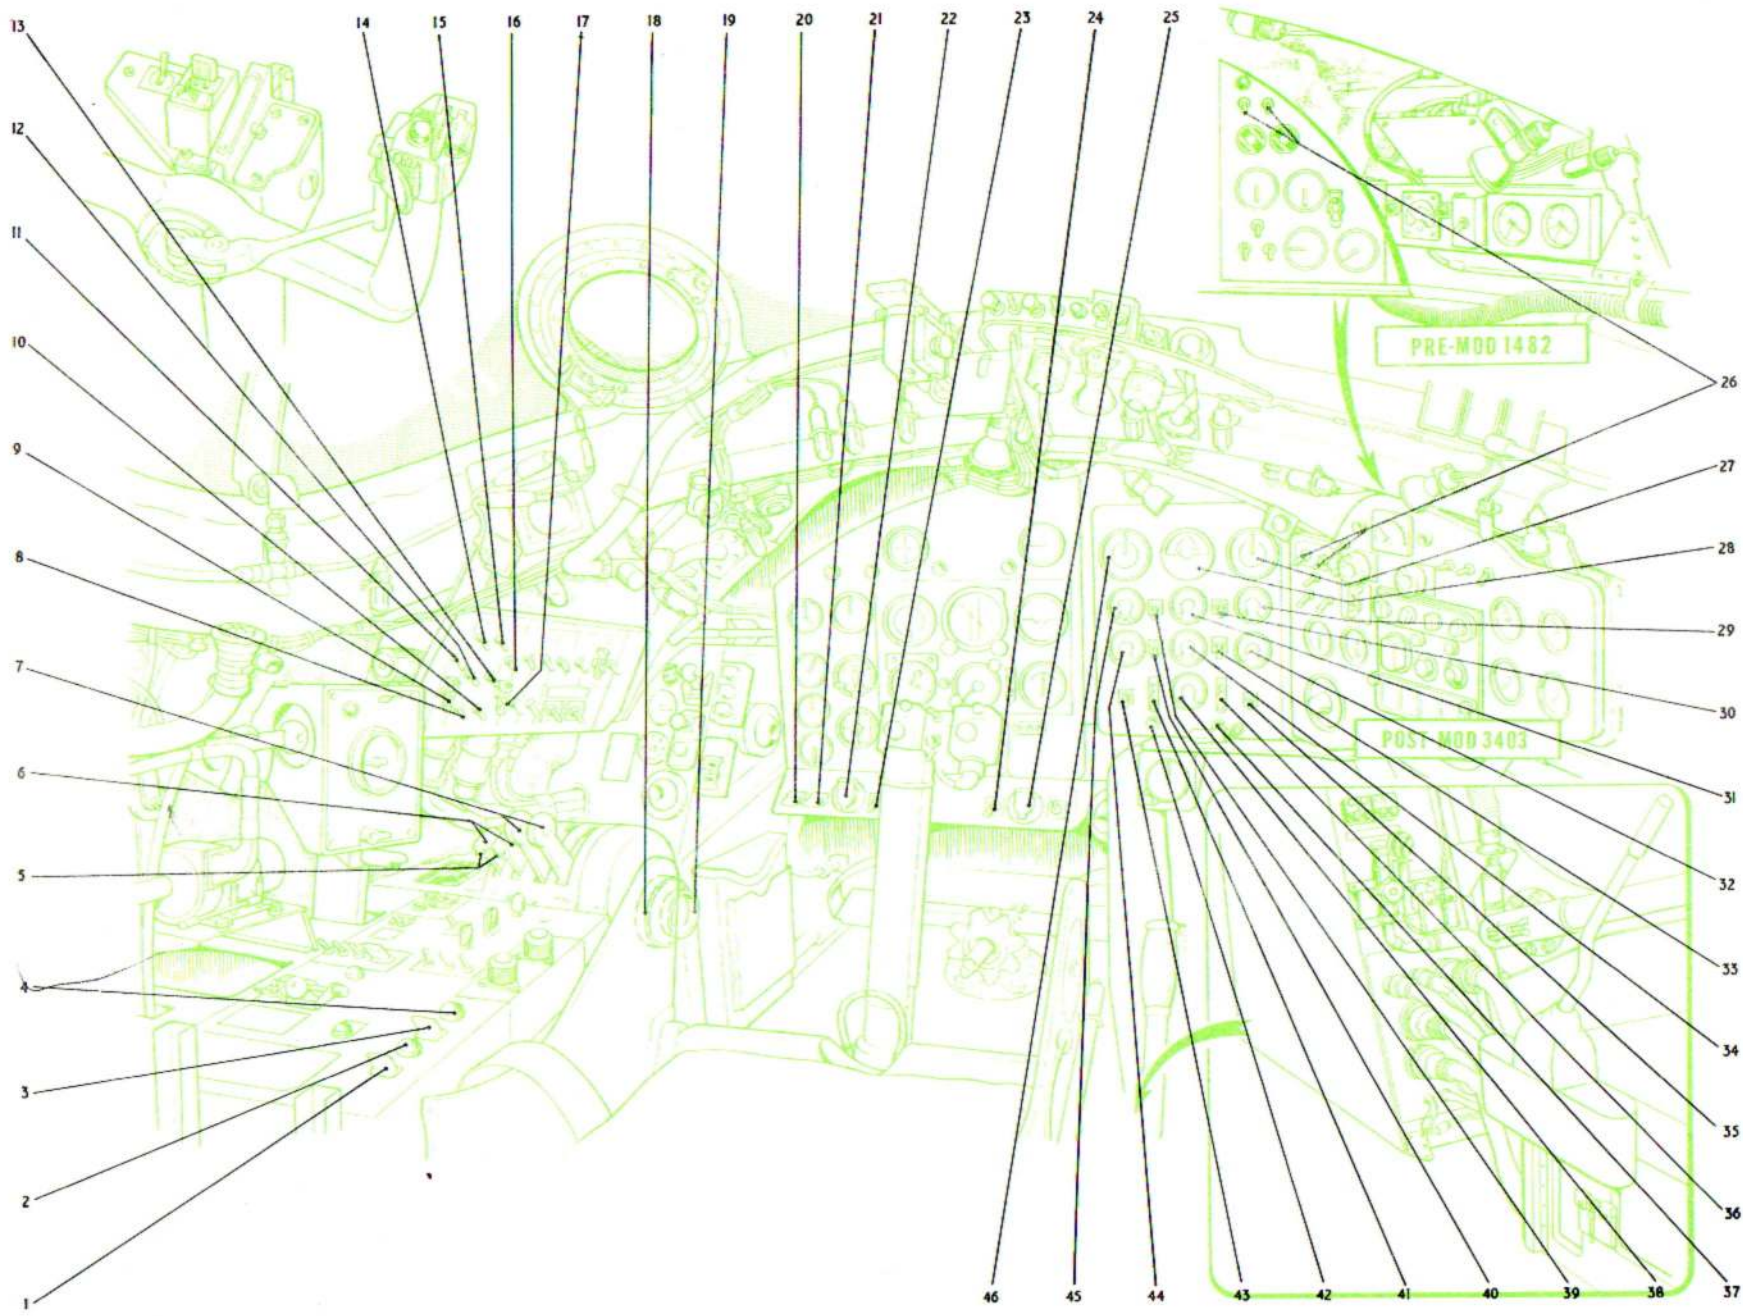

Fig.2. Engine controls and instruments (B(I) Mk.6 aircraft)
## KEY TO FIG.2 (ENGINE CONTROLS AND INSTRUMENTS - B(I) MK.6 AIRCRAFT)